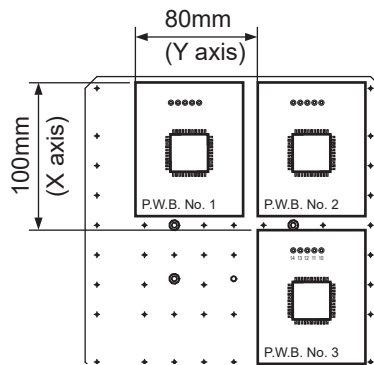

Fig. 7-53
- ① When same three P.W.B.s are arranged as shown in Fig. 7-53, measure the distance between the reference points of the 1st P.W.B. and the 2nd P.W.B., and the distance between the reference points of the 1st P.W.B. and the 3rd P.W.B.. Set the work origin of the P.W.B. No. 1 to (X coordinate: 0 Y coordinate: 0).
- ② When the distance between the reference points is the values in Fig. 7-53, input values to the work origin 2 and 3 as in Fig. 7-54. By setting the work origin, the program for the 1st P.W.B. can be used.